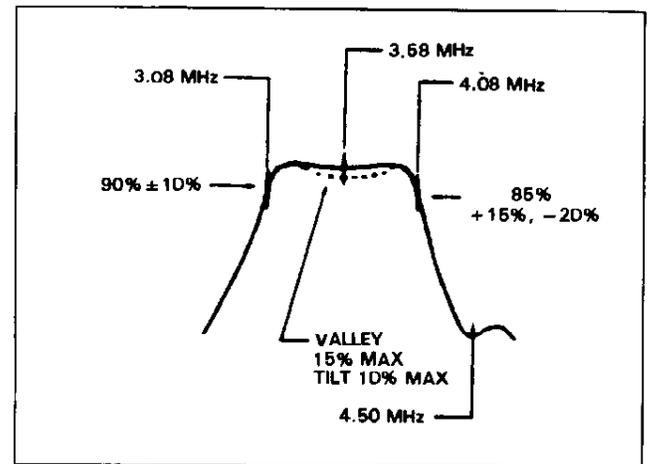

Fig. 39 Frequency Response Measurement, Demodulated Response.
5. A demodulator probe will give a "text book" frequency response display as shown in Fig. 39.